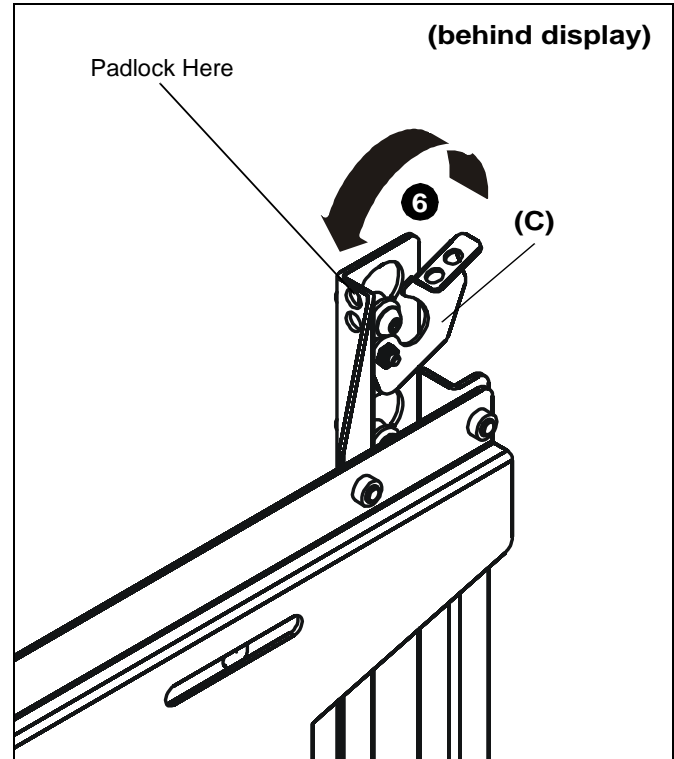

Figure 8
6. Move locking flag (C) to closed position to secure mounting button to mount. (See Figure 8)
7. (Optional) Use a padlock to lock display to mount. (See Figure 8)